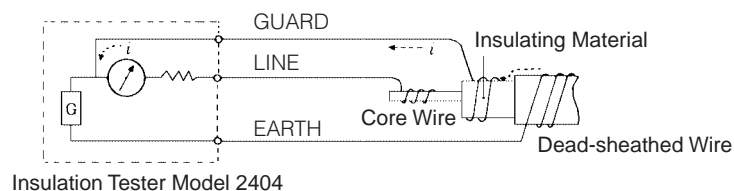

Figure 3-1 Connections
- The GUARD terminal is used only when volume resistance is to be measured without being influenced by surface leakage resistance. For example, when the insulation test is conducted on a cable such as shown in Figure 3-1, wind a bare wire around the insulating material and connect this wire to the GUARD terminal. In this arrangement, the leakage current flowing on the surface of the insulating material will not pass through the indicator. Thus, only the volume resistance is measured.